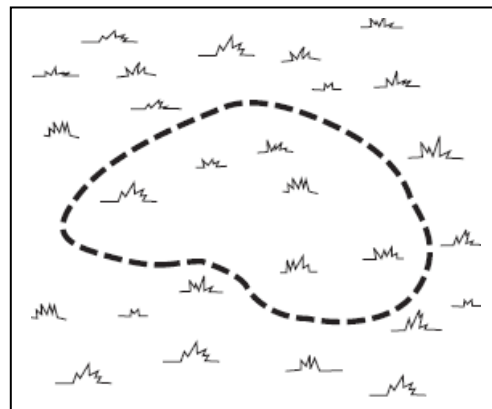

Fig. 1
1. Use sand to mark the outline of your pond. Fig. 1